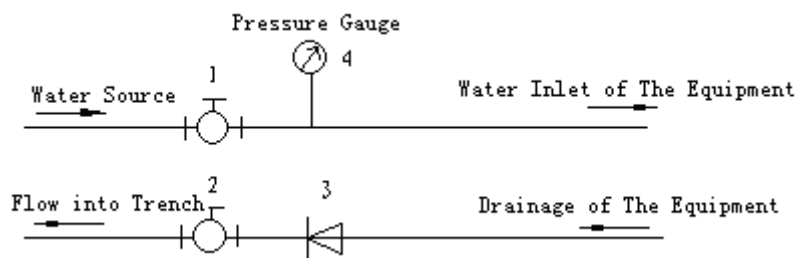

FIG.3
5.4 Connect the pipeline of drainage, water inlet and water source to the related ones of the equipment (see Fig. 3), and meanwhile configurate power source according to the requirements.